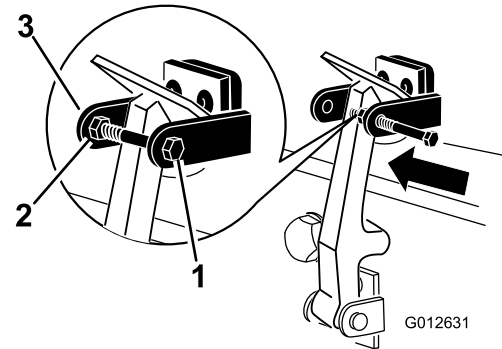

**Figure 17**
6. Hook the latch onto the hood-latch bracket (Figure 17).